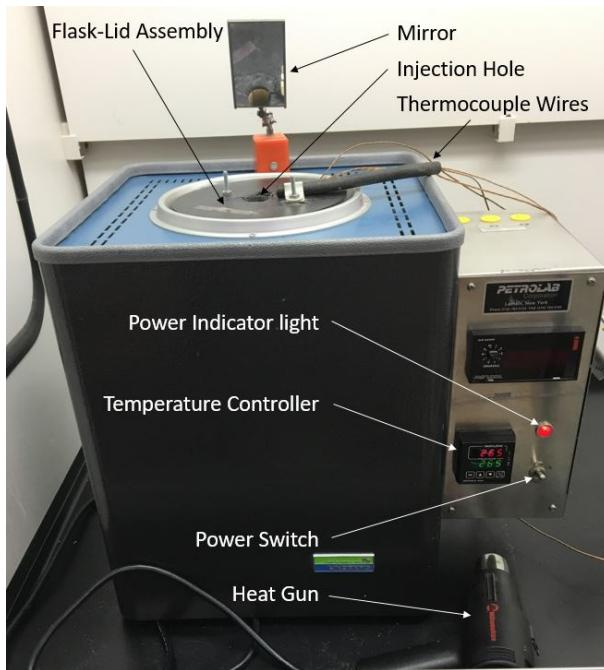

Figure 1: AIT Furnace
- The furnace, shown in Figure 1, is an encased stack of ceramic insulation with cavities cut out to allow space for the heating elements and the test flask (see Figure 8 for an internal diagram of the furnace). The furnace is controlled with measurements taken at the insulated furnace wall. This design causes the furnace to have large temperature gradients while in operation. As a result, the set point temperature and the flask temperature will almost always differ significantly (as much as 25 K in some cases). Therefore, set points must be chosen between approximately 10 - 20 K above the desired temperature to reach that temperature inside the flask. **The reported AIT must be taken from the internal flask temperature (Thermocouple 4) and NOT the control thermocouple inside the furnace**
See Figure 1 for reference on how to operate the furnace